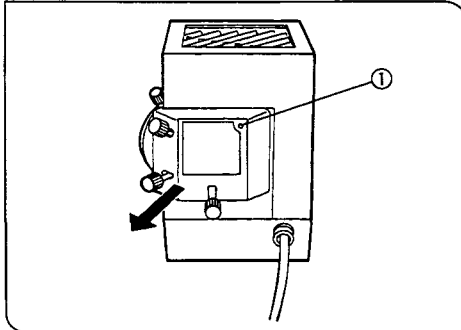

Fig. 9
7 Assembling the Lamp Housing for the Mercury Burner (Figs. 9,10,11,12)
1. Using the Allen screwdriver, remove the burner socket clamping screw ①.
2. Detach the socket (U-ULS100HG) from the lamp housing (U-ULH) by pulling in the direction indicated by the arrow. (Fig. 9)
4. Firmly tighten the socket clamping screw ① with the Allen screwdriver. (Fig. 9)
- ★ If the clamping screw ① is accidentally loosened while the burner is operating, the interlock switch turns off the burner. To restart the burner, first turn OFF the main switch on the power supply. Then disconnect the connecting cord plug from the output connector on the power supply unit and wait for about 10 minutes. Then, after firmly tightening the clamping screw ①, reconnect the connecting cord plug and turn ON the main switch again. (Fig. 9)